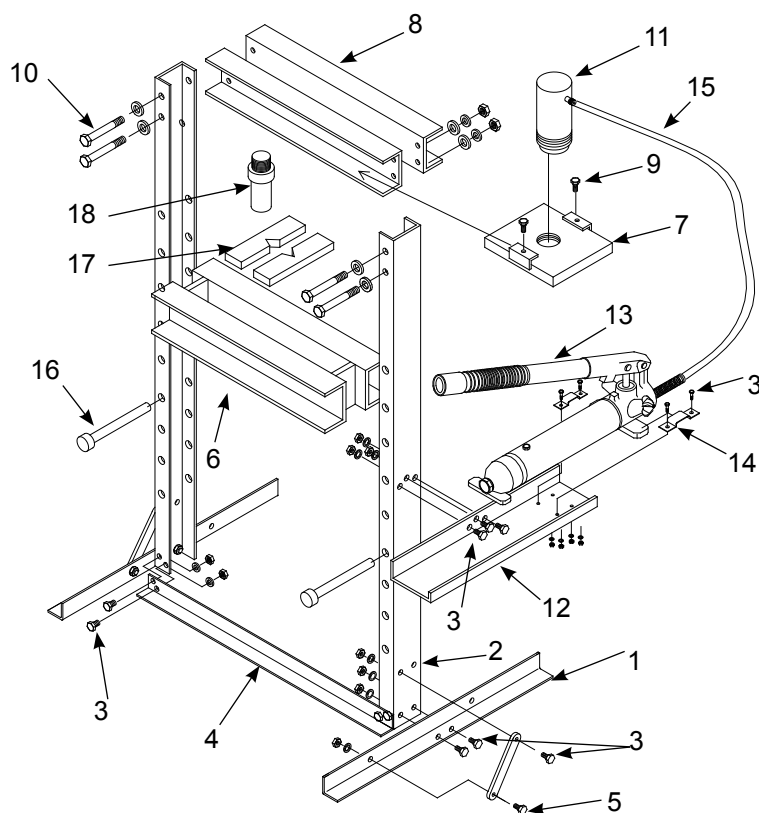

Figure 5 - Assembly Illustration for model 60123 & 60253
**Models 60123 & 60253:** (Refer to Figure 5)
1. Attach base legs (1) to upright channels (2) with bolts, lock washers and nuts (3). Hand tighten only.
2. Attach lower cross member (4) to upright channels (2) with bolts, lock washers and nuts (3).
3. Attach support links (5) to the base (1) and upright channels (2) with bolts, lock washers and nuts (3).
4. Carefully slide bed frame (6) down to lowest possible position between the upright channels (2).
5. Slide head plate (7) to into upper cross members (8). Then, secure with bolts (9).
6. Attach the upper cross members assembly (8) to the upright channels (2) with bolts, flat washers, lock washers and nuts (10).
7. Thread the ram (11) to head plate (7) on upper cross members (8).
8. Attached pump support bracket (12) to upright channel (2) with three bolts, lock washers and nuts (3).